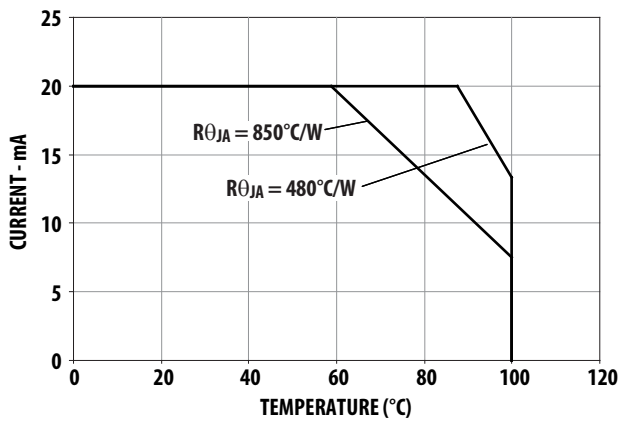

Figure 6. Maximum Forward Current Vs. Ambient Temperature. Derate Based on $T_{JMAX} = 110^{\circ}C$, $R_{\theta JA} = 850^{\circ}C/W$, $480^{\circ}C/W$.
1. Derate Linearly as shown in Figure 6.